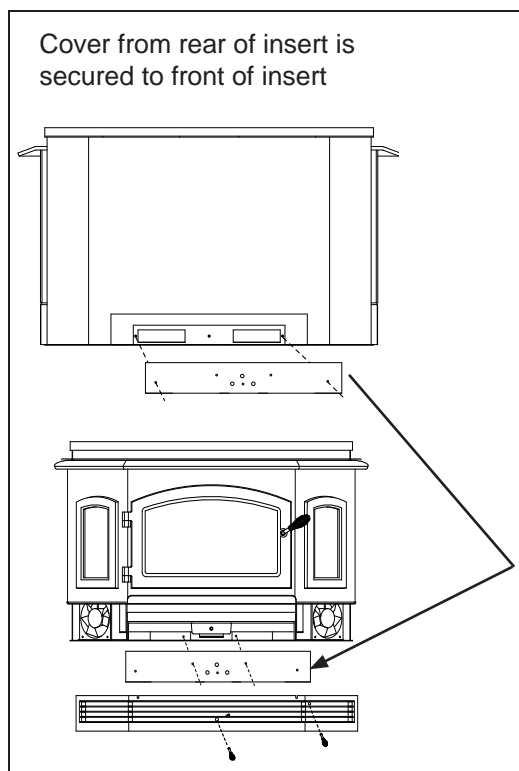

Figure 11.1
1. Remove the 2 air control spring handles. **Figure 11.1.**
4. Remove cover from rear of insert by removing 2 screws. **Figure 11.1**